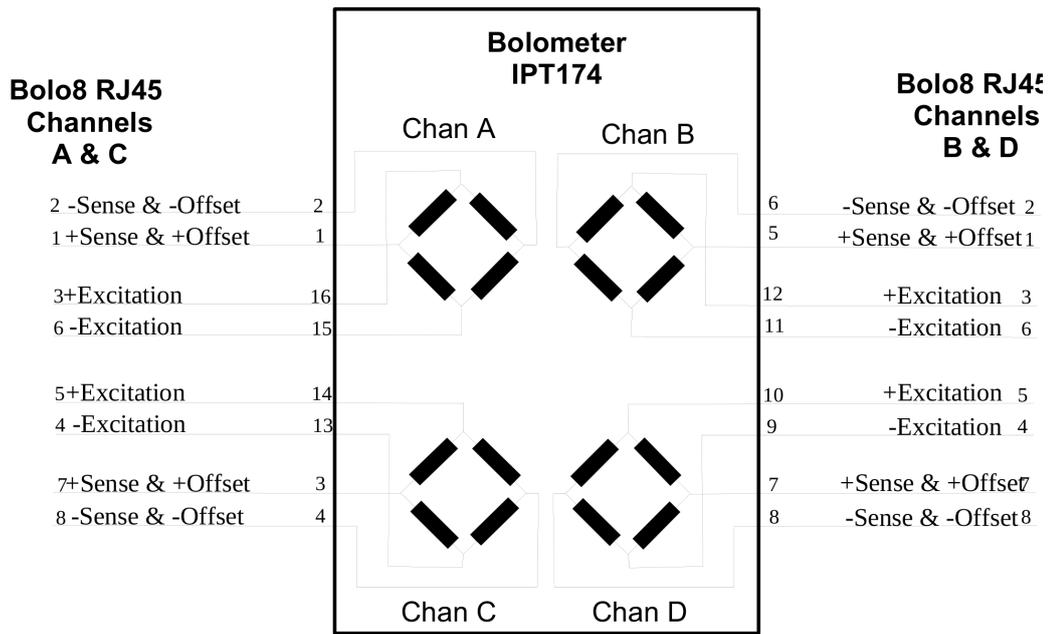

Figure 3: Bolometer Foil Connections
- The bolometer bridge must be connected as indicated in Table 1 and Figure 3 below.